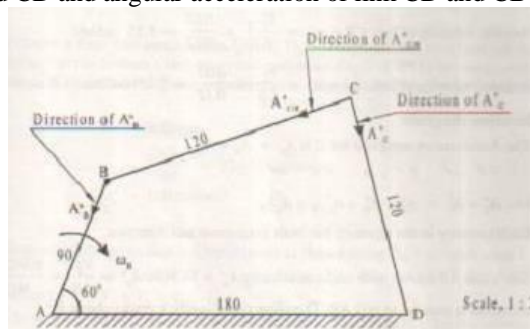

Fig. 2.4
- A four bar mechanism ABCD is made up of four links, pin jointed at the ends. AD is fixed link which is 180 mm long. The links AB, BC, CD are 90 mm, 120mm and 120mm respectively. At certain instant, the link AB makes an angle of 60 degree with the link AD, if the link AB rotates at uniform speed of 100 rpm clockwise determine angular velocity of links BC and CD and angular acceleration of link CD and CB as shown in fig 2.4